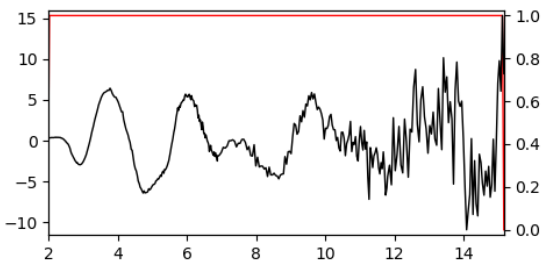

Figure 2-9: A Hanning function is used as the window function for the Fourier transform of k^3 -weighted EXAFS.
- 11) For an easy step, we'll set up how the Fourier transform is carried out. Under the "EXAFS" heading in the far right panel, change the "K Weight" value from 0 to 3. Next, change the "Window" function from "Gaussian" to "Hanning." This will cause the lower left panel to look like Figure 2-9.